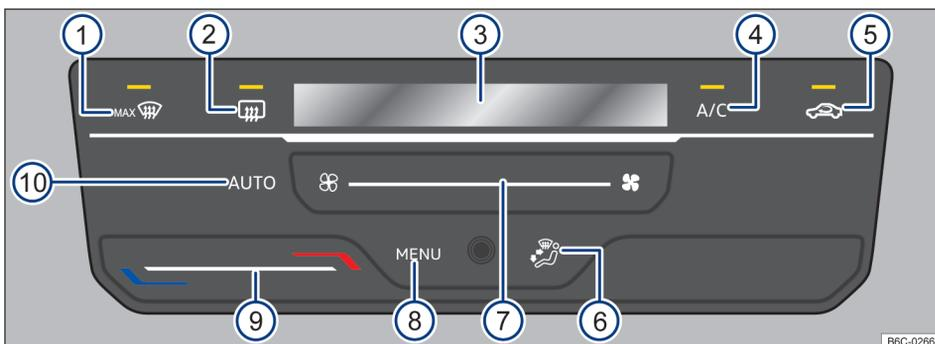

Fig. 85 Climatronic controls.
When touching the function button  → Fig. 85 (10) it is possible to switch on the Climatronic automatic mode.
The automatic mode ensures constant temperatures in the vehicle interior. The air temperature, the air volume and its distribution is automatically regulated. Automatic operation turns off when ventilation is changed manually → Fig. 85 (7) or by changing the air distribution across the function button → Fig. 85 (6).
- *Climatronic*: touch the function button  → Fig. 85 (4) to turn on and off the cooling functioning.
- *Climatronic*: slide your finger under the function button → Fig. 85 (9).
On the Climatronic display → Fig. 85 (3) the set temperature is displayed.
- *Climatronic*: slide your finger under the function button → Fig. 85 (7).
- *Climatronic*: Touch the function button  → Fig. 85 (5).
- *Climatronic*: touch the function button → Fig. 85 (6) on the desired position, the selected distribution will be indicated on the display (3).
- *Climatronic*: Touch the function button  → Fig. 85 (1).
- *Climatronic*: touch the function button  → Fig. 85 .
For vehicles with VW Play, press **MENU** → Fig. 85  to open the air conditioning menu on the radio.